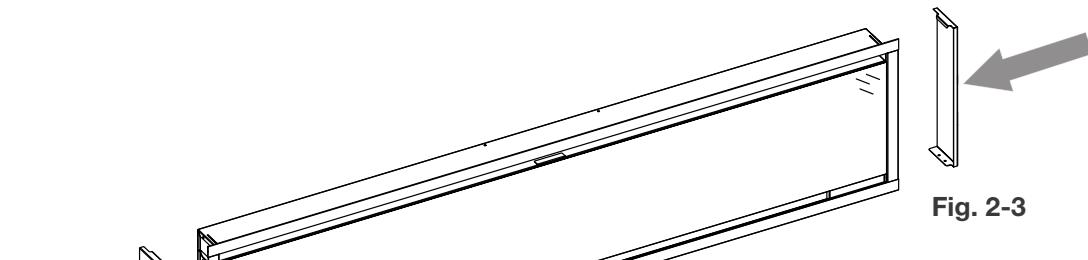

Fig. 2-3
1. Install left and right panels (**Fig. 2-3**) by securing 4 screws (2 per panel) to bottom of appliance (**Fig. 2-4**).